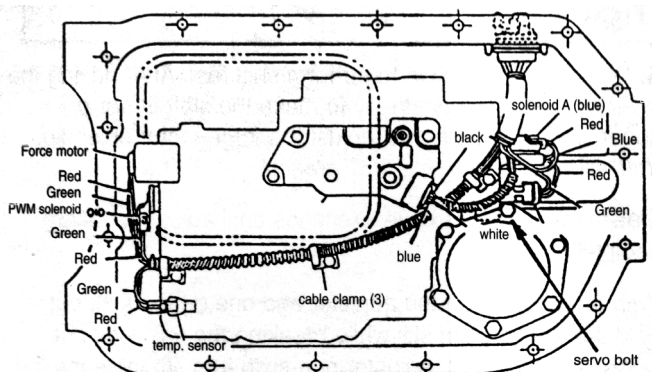

Figure 2
1. To Remove: Unplug the solenoids pictured in (Figure 1). When installing the new shift solenoid in B position there will be a clearance problem with one of the reverse servo bolts (Figure 2 & 3). Remove the bolt that is located directly under the B solenoid. Replace this bolt with the torx-head bolt furnished with the solenoid.